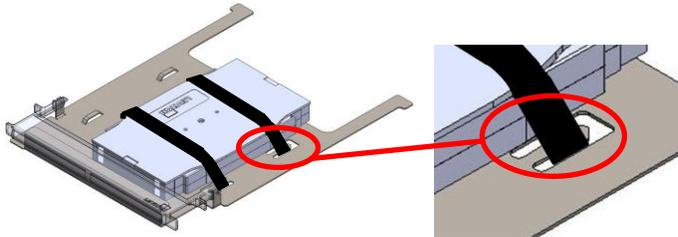

Figure 17
5. Install the Velcro by inserting the loops over each arrow lance point and secure the splicing tray stack to the splice deck tray (Figure 17).